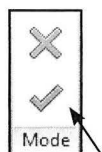

Fig. 10.43. Klik *Finish Edit Mode*.
- Klik *Finish Edit Mode* (Fig. 10.43).